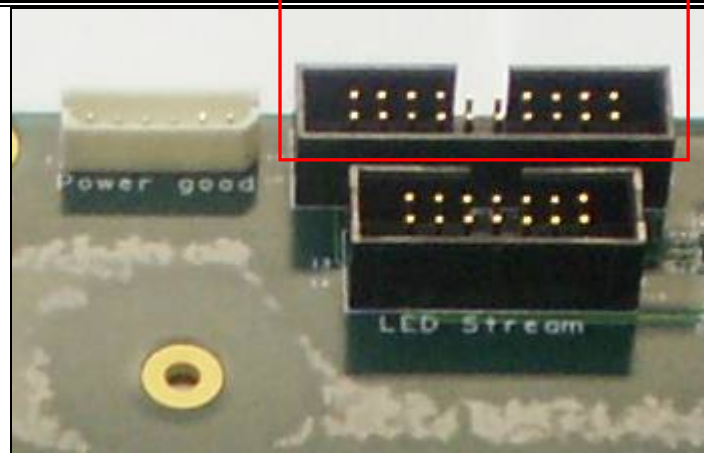

Figure 14: Daisy Chain Interface
10. Daisy Chain (see Figure 14)